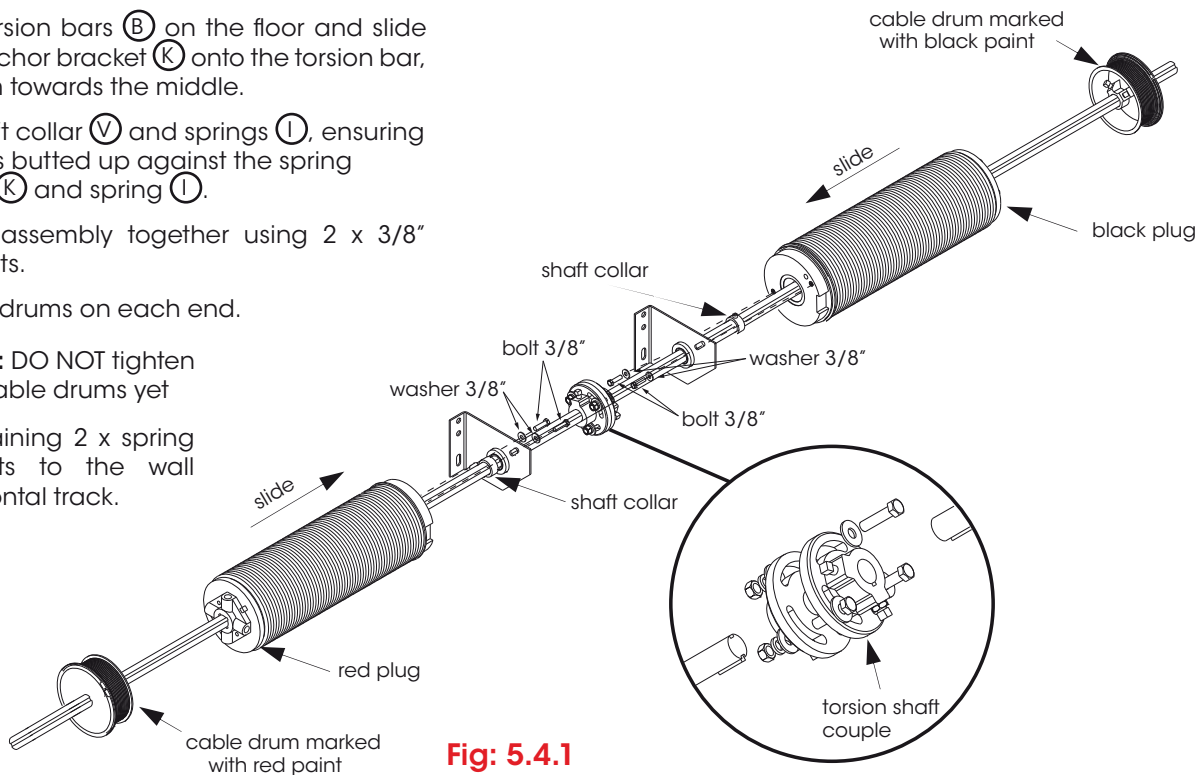

Fig. 5.4.1
The springs and drums for the counterbalance system are now colour coded to easily identify which side of the centre bracket the spring is placed. Fig. 5.4.1.
- Position the torsion shaft couple in the middle as shown in Fig 5.4.1, the axles should be flush with each couple allowing free rotation to occur.